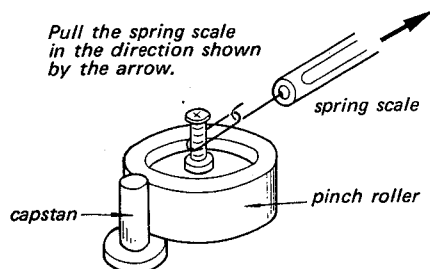

Fig. 3-1-5. Pinch roller pressure adjustment (2)
- (4) Make a loop with a piece of string and attach the spring scale to the Pinch Roller Shaft with the loop of string. See Fig. 3-1-5. Pull the scale horizontally in the direction shown by the arrow. The Capstan Shaft, Pinch Roller and the spring scale should be in a line. Check the reading when the Pinch Roller just leaves the Capstan Shaft.
- (5) Adjust the adjusting nut (B) for 1.7 ± 0.1 kg (3 lb 8 oz to 3 lb 15 oz)
- (6) Repeat steps 3 to 5 several times.
- (7) After adjustment lock the adjusting nut (B) by the lock nut (B), and the adjusting nut (A) by the lock nut (A). (Be careful not to move the adjusting nuts.)